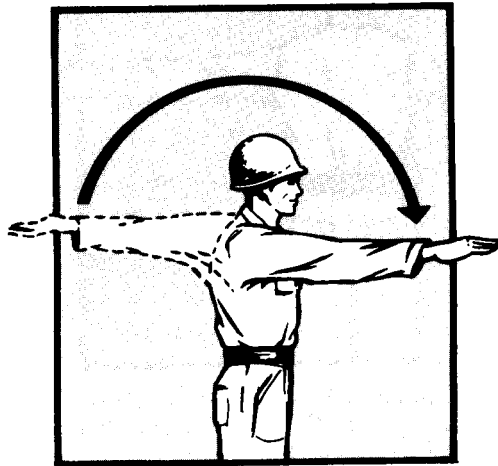

**Figure 6. HALT or STOP.** Raise the full extent of the arm, palm to the front. Hold that position until the signal is understood.
*Note.* Alternate signal to stop vehicles, see figure 6.